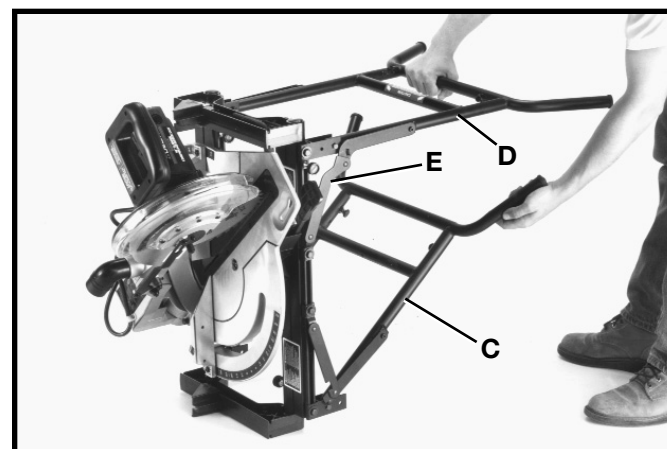

Fig. 58
5. Tilt machine on its side, as shown in Fig. 58, and continue to fold left leg (C) all the way underneath saw base. Leg (C) will contact and unlock hinges (E) of right leg (D), enabling right leg (D) to be folded.